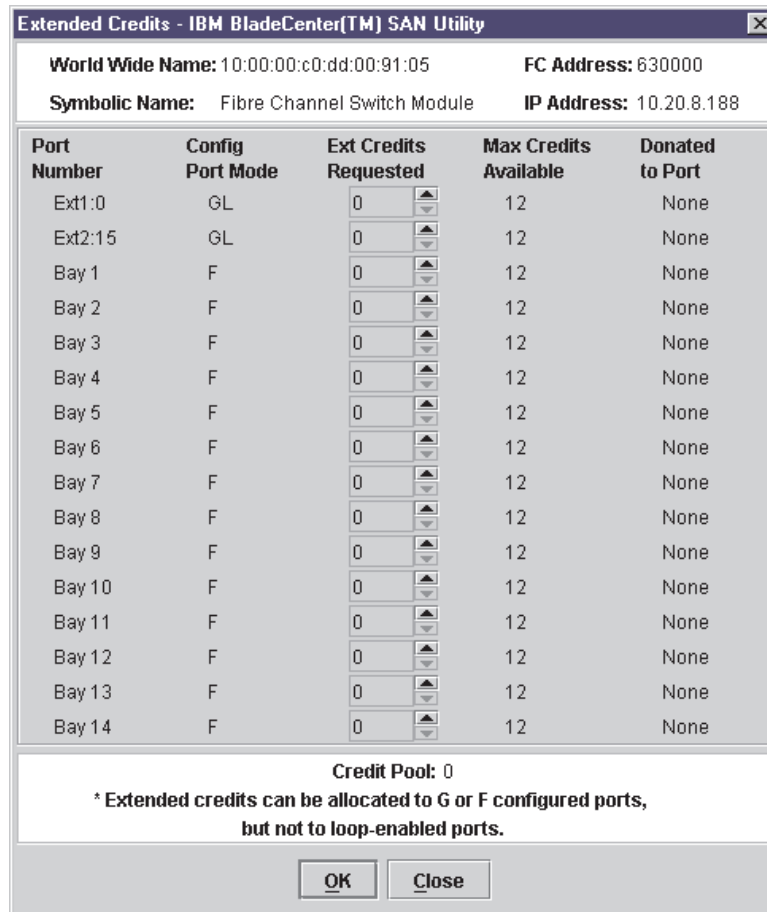

Figure 22. Extended Credits window
2. In the Faceplate window, select the recipient port. Recipient ports must be external ports configured as G_Ports or F_Ports. Click **Port** → **Extended Credits**. The Extended Credits window opens as shown in Figure 22 on page 123.